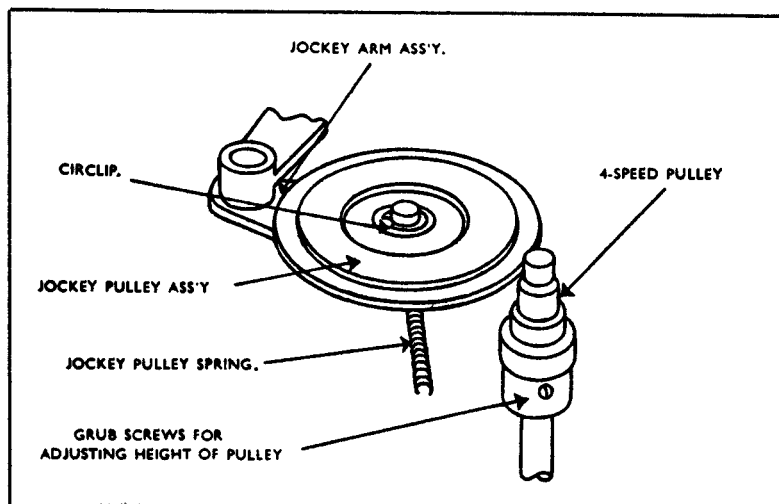

FIGURE 2.
- Slacken setscrews on the 4-speed pulley (Item 8M94) and adjust until the jockey pulley (Item 8M32) is engaged on the smallest pulley diameter just clear of the top step (see Figure 2).
(2) Motor defective	- Remove the turntable and allow the motor to operate without load. If motor spindle is not rotating and voltage is reaching the motor, the motor is faulty. Repair or replace. - Check that the 4-speed pulley (Figure 2) is not loose on motor spindle. If loose adjust as under "Adjustments of Speed Change".
(3) Jockey pulley not engaging turntable rim.	- Check that the jockey pulley is free to pivot. - Check that the jockey pulley spring is correctly positioned (see Figure 2).